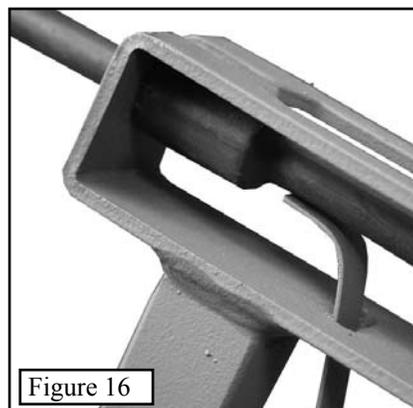

Figure 16
Step 4. Your cable bracket should now look like *Figure 16*.